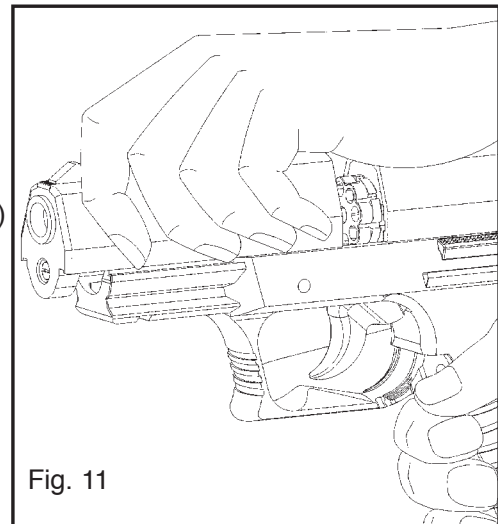

Fig. 11
- While keeping the air pistol in an upright position (to keep the pellet clip from falling out) **as shown in Fig. 11**, open the slide by pressing the slide release lever down (Fig. 8) until the slide opens and exposes the pellet clip.
- Close the air pistol by gripping the slide and pushing it back until it locks into place (Fig. 11).
- Close the slide by pushing it all the way back until it locks into place (See **Step 4.1 and Fig. 11**).